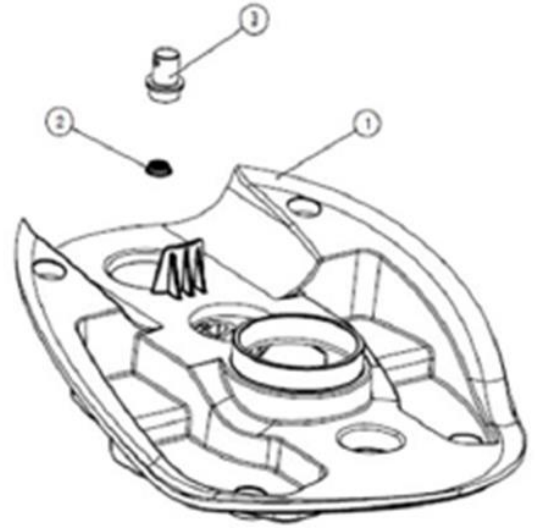

Figure 37
2. Locate the loader assembly top cover (figure 37, part 1) under the solution tank.
3. Remove the valve, (Figure 37, part 3) by turning it counter-clockwise.
4. Remove the particle filter (Figure 37, part 2) and run it under the warm water to clean it out. you may use a soft brush if it is heavily clogged.